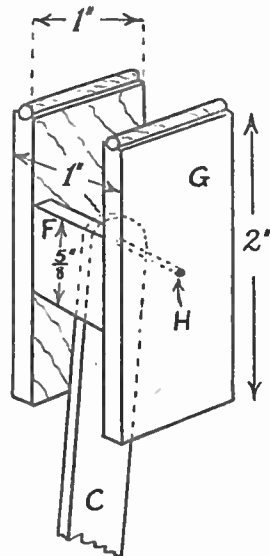

Fig. 4—The bearings
The raiser bar (C) should be cut $8\frac{1}{2}$ ins. long and $\frac{1}{2}$ in. wide. A $1\frac{1}{2}$ ins. length of thin dowel is glued into the narrow end of the handle (D), $\frac{1}{2}$ in. of this projecting towards the pillar to form a stop against the upper side of the base. Both (C) and (D) are fixed to the dowel when the bearings (Fig. 4) have been inserted in the pillar.
The bearings (Fig. 4) consist of two pieces of glass rod cemented into grooves on the uprights (G). Two struts (F) are fixed with their top edges $\frac{1}{2}$ in. from the top of the uprights (G). Both (F) and (G) are cut from $\frac{1}{2}$ in. wood. The raiser bar (C) is fixed slackly on a length of steel knitting needle (H).